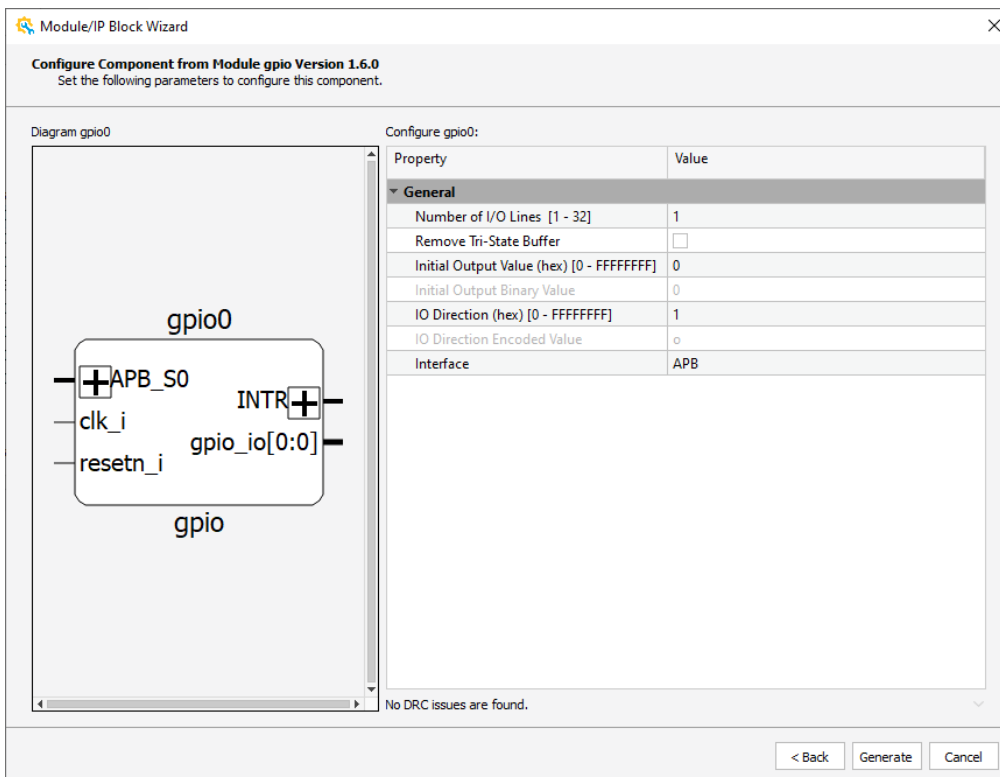

Figure 2.20. Module/IP Block Wizard - Configure Component from IP Gpio Version 1.6.0
3. Enter a component name in the **Component name** area, such as gpio0. Click **Next**. Module/IP Block Wizard shows the **Configure Component from IP gpio Version 1.6.0** page (Figure 2.20).